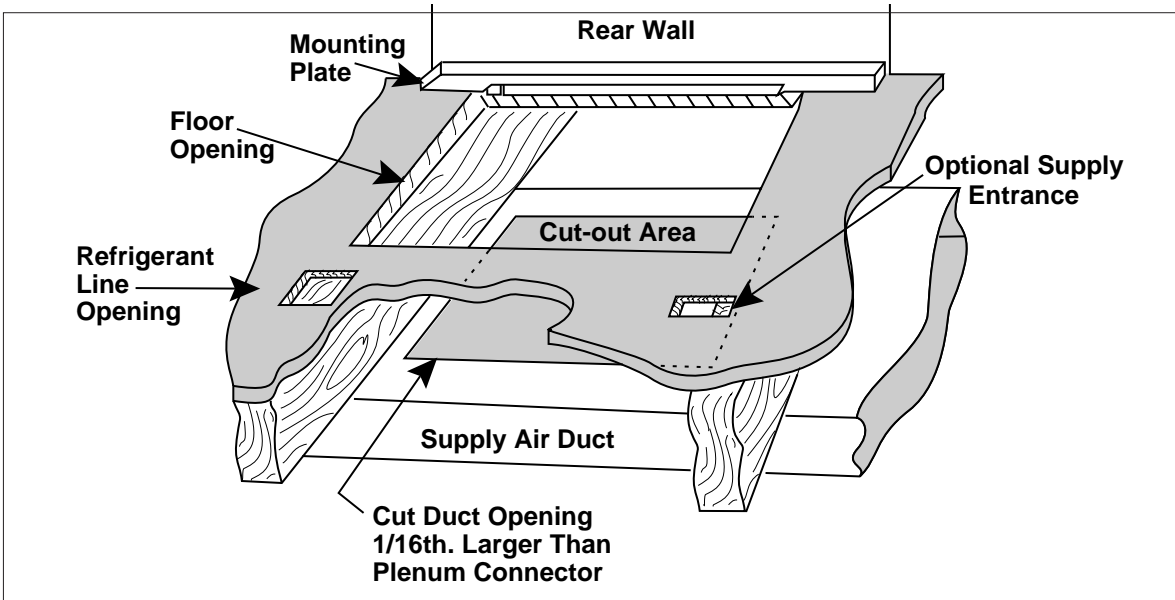

Figure 7. Rear Mounting Plate
- plied with duct connector), install it to back edge of floor opening (see Figure 7). Re-install duct connector in floor opening. A shim may be used, if necessary, to ensure the furnace is level.